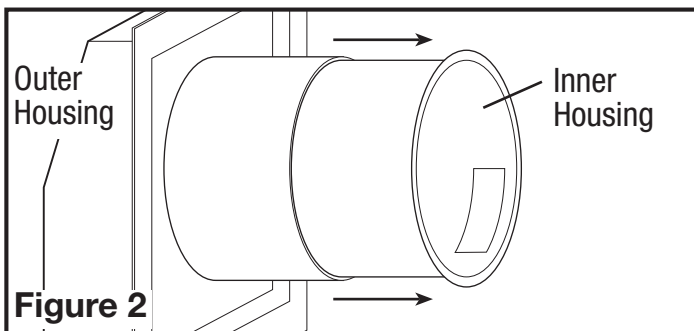

Figure 2
3. Slide the inner housing out from the outer housing and set aside in a safe place (**Figure 2**).